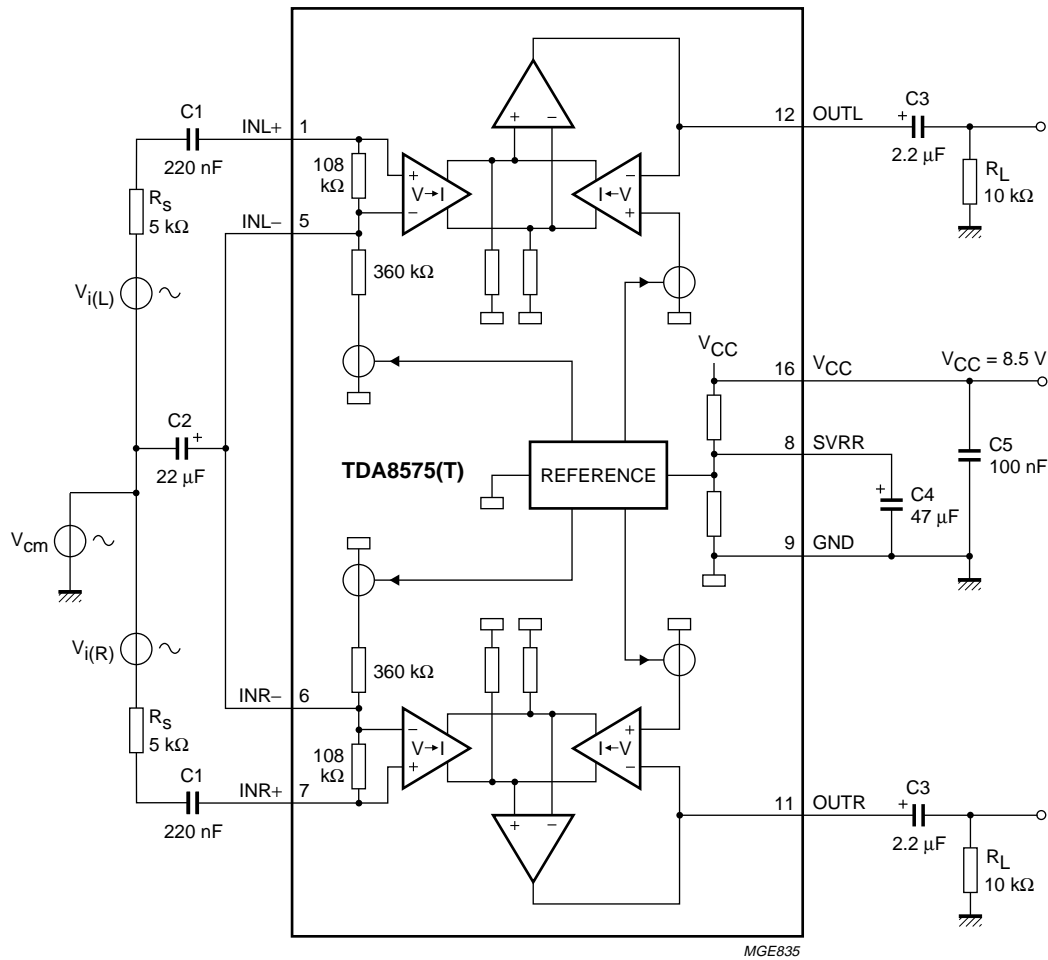

Fig.9 Application circuit TDA8575(T).
QUALITY SPECIFICATIONQuality according to *UZW-BO/FQ-0601*, if this type is used as an audio amplifier.**DC CHARACTERISTICS** $V_{CC} = 8.5\text{ V}$; $T_{amb} = 25\text{ °C}$; $R_L = 10\text{ k}\Omega$; in accordance with application circuit (see Fig.9).
$V_{CC} = 8.5 \text{ V}$; $f = 1 \text{ kHz}$; $R_S = 0 \text{ k}\Omega$; $R_L = 10 \text{ k}\Omega$; $T_{amb} = 25 \text{ }^\circ\text{C}$; in accordance with application circuit (see Fig.9).
4. The common mode rejection ratio is measured at the output with a voltage source $V_{cm(rms)} = 1 \text{ V}$ and both $V_{i(L)}$ and $V_{i(R)}$ short-circuited according to Fig.9. The common mode rejection is dependent on the capacitor C2 connected to the IN- input. The common mode rejection for low frequencies (<1 kHz) can be increased by using a larger capacitance for C2.